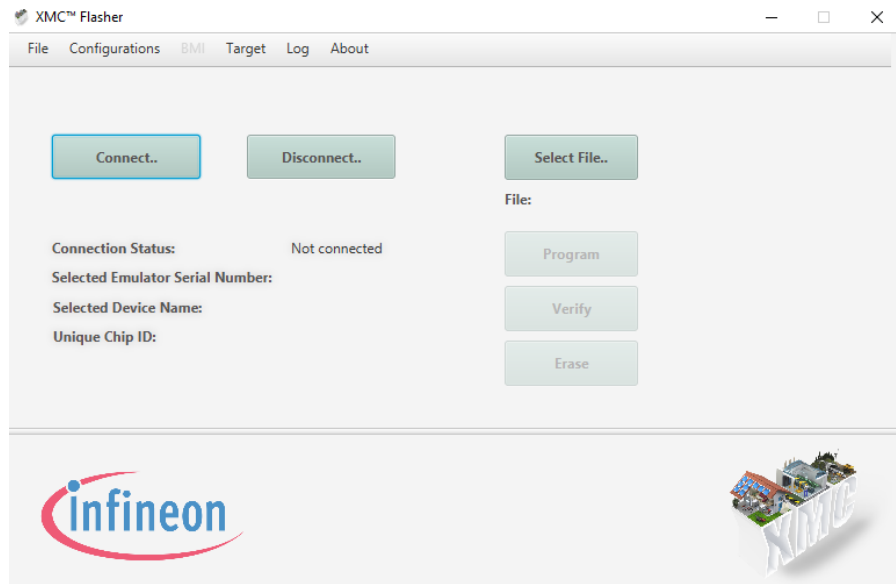

Figure 6. XMCFasher Programming Tool
**Step 4.** Start XMCFasher on the PC to get a window like that shown in Figure 6.